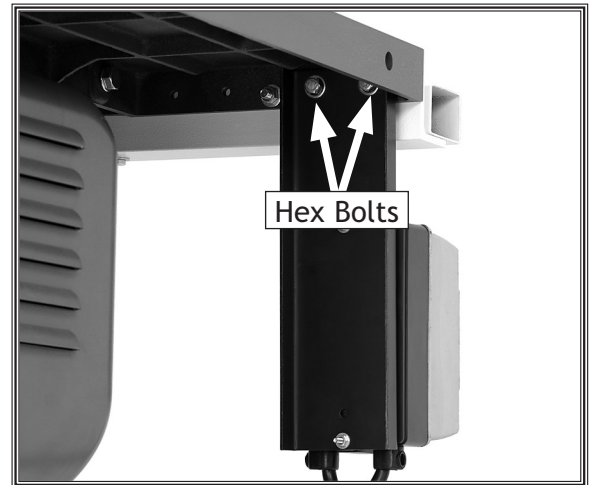

Figure 7. Installed switch.
1. Bolt the switch bracket to the underside of the rail with the hex bolts and washers (see Figure 7).